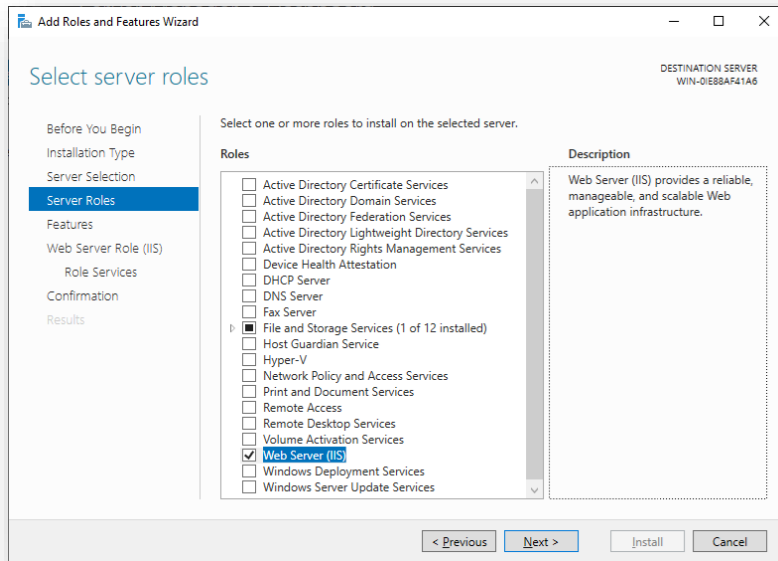

Figure 2 – Add Rules Wizard (Select Server Roles)
3. In the **Add Roles and Features Wizard** window, check **Web Server (IIS)** and click **Next**. See Figure 2. You may also be asked to add in the IIS Management Console via a pop up window. If so, click the Add Features button.